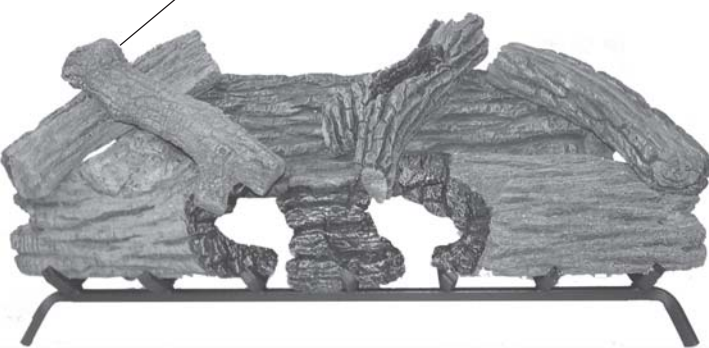

Figure 42 - Installing Top Left Middle Log (#10)
9. Install top left middle log #10. See Figure 42.